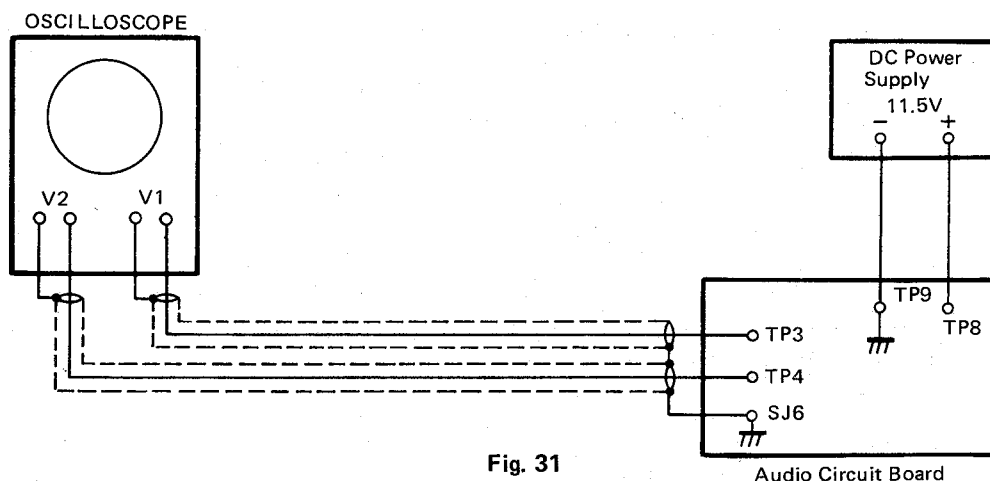

Fig. 31
1. Set up Oscilloscope and DC power supply as shown in Fig. 31.